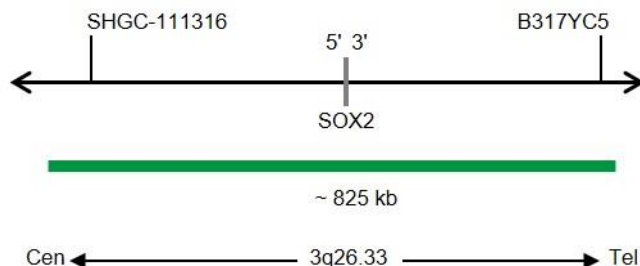

Fig. 1: SPEC SOX2 Probe map (not to scale)
- ZyGreen (excitation 503 nm/emission 528 nm) labeled polynucleotides (~10 ng/μl), which target sequences mapping in 3q26.33* (chr3:181,021,629-181,848,399) harboring the SOX2 gene region (see Fig. 1).